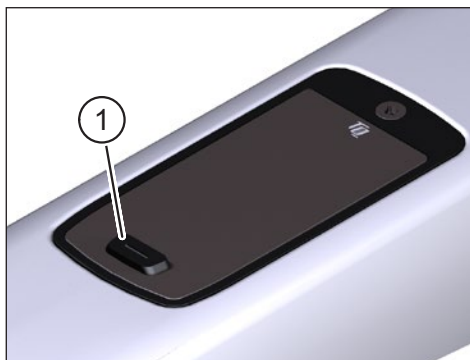

Fig. 2: Display
- ▶ Switch on the Drive Unit by shortly pressing the button (pos. 1 in Fig. 2) on the Display.
- ▶ Switch off the Drive Unit by long pressing the button (pos. 1 in Fig. 2) on the Display.